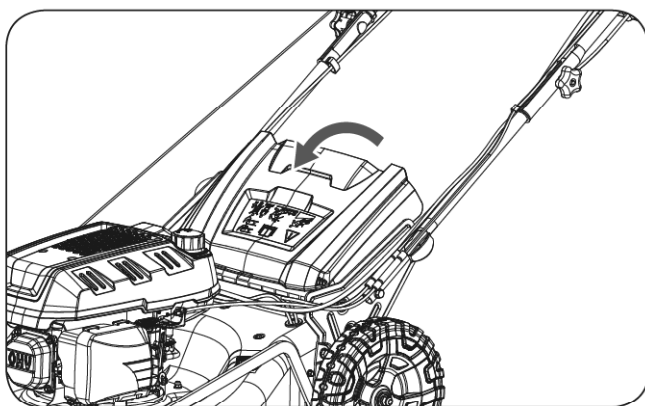

Figure 4
1. Lift the mower's rear discharge door. (See **Figure 4**)